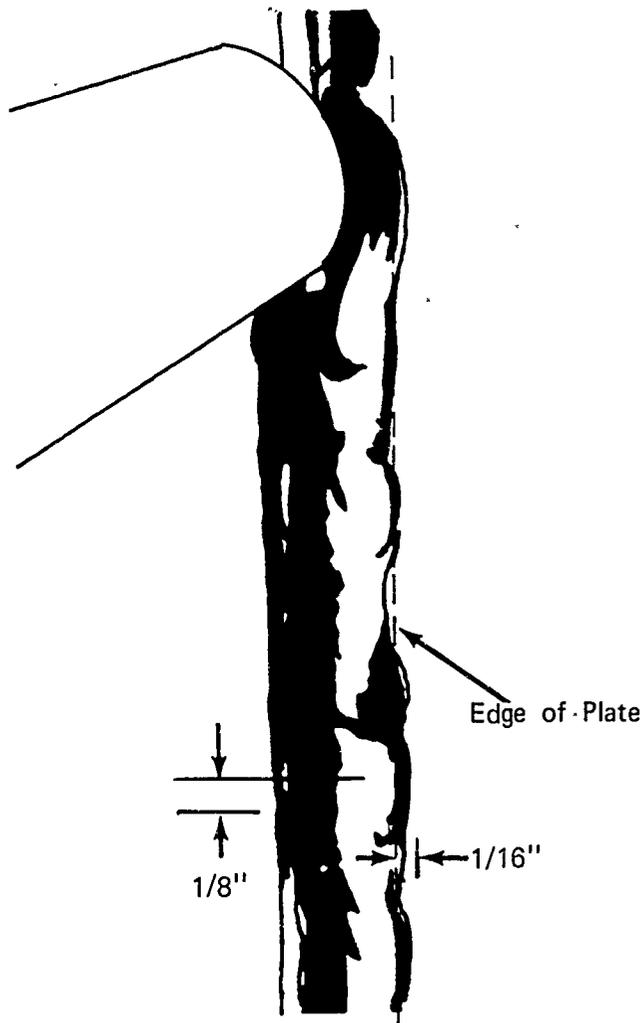

FIGURE 4
- G. Start arc $1/2''$ to $3/4''$ up from bottom of joint; then move to bottom end of joint and begin welding using some type of weaving motion (Figure 4)